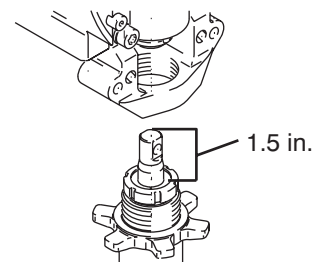

FIG. 19
1. FIG. 19. Pull piston rod out 1.5 in. Screw in pump until holes in connecting rod and piston rod align.